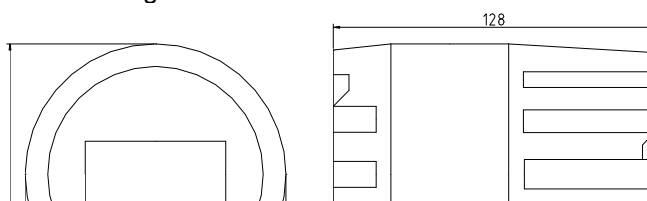

Fig. 4-3 LRT-I displayer in the field
c) LRT-I displayer in the field as Fig. 4-3